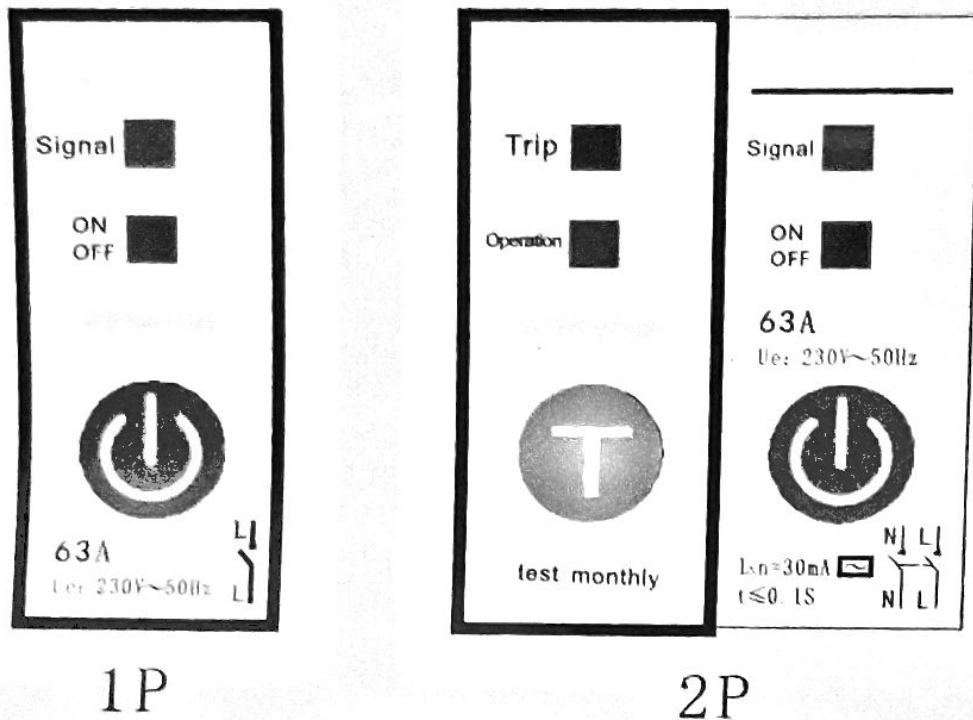

figure 3
- 6.2 Wiring Diagram: See Fig. 3
6 Operation Trial and panel instructions: Panel see fig.3